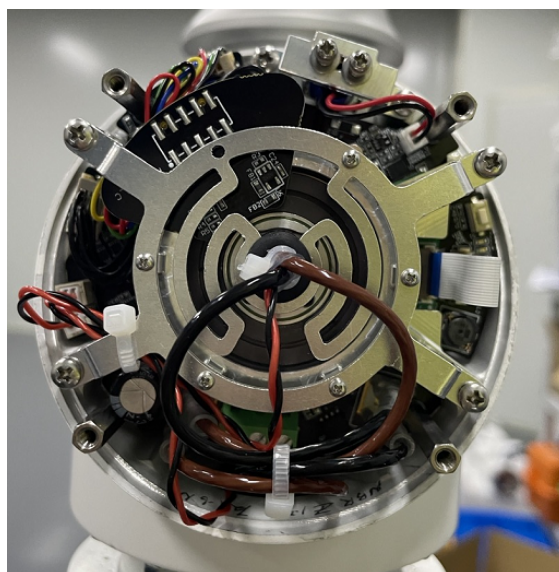

Figure 3-11 : Reconnect the wires
4. Reconnect the wires and tie them as shown in **Figure 3-11** :